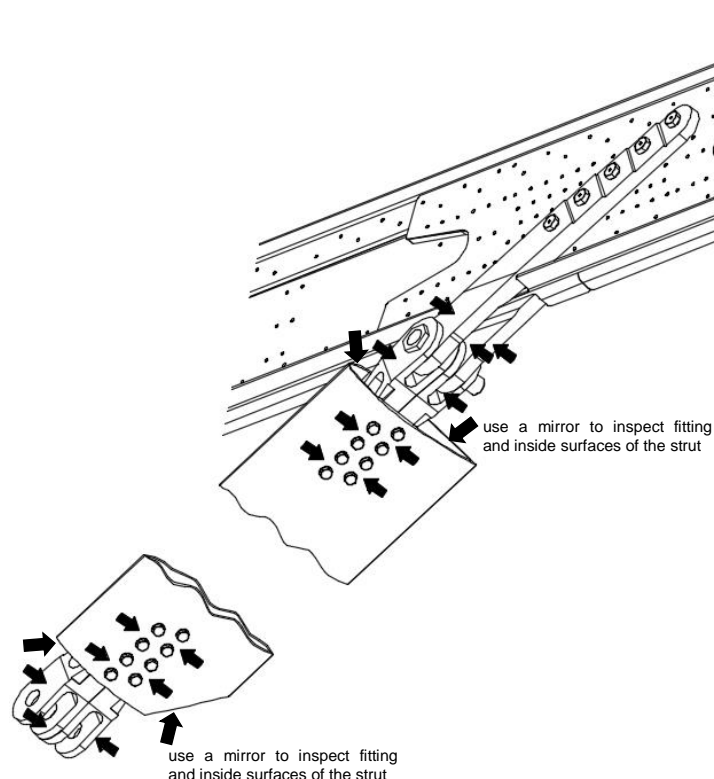

Figure 3 – Directed Detailed Visual Inspection Areas
1. Clean the inspection areas identified in Figure 3 using a cleaning solvent or airframe cleaning compound.
2. Do a detailed visual inspection, using at least 10x magnification and a strong light source of the areas of the Strut, Strut Fittings (Wing End and Fuselage End) and Strut Fittings (Forward and Aft) in Figure 3. Look for cracked or damaged surface protection (primer and paint), corrosion or other damage.